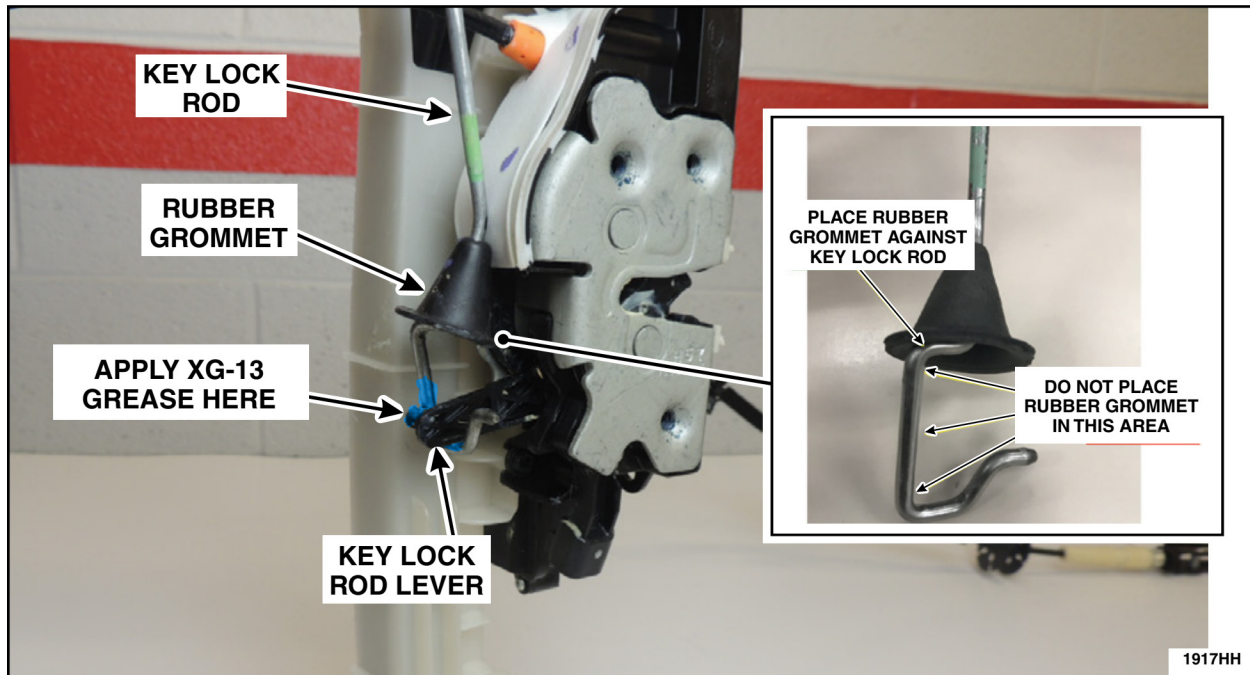

FIGURE 19
31. On the driver side door only, apply Motorcraft® XG-13 door latch grease to the area where the key lock rod attaches to the key lock rod lever. See Figure 19.
32. On the driver side door only, install a *new* rubber grommet onto the key lock rod over the key lock rod lever. Position the rubber grommet as shown in Figure 19. The rubber grommet will sit sideways when properly installed. See Figure 19.